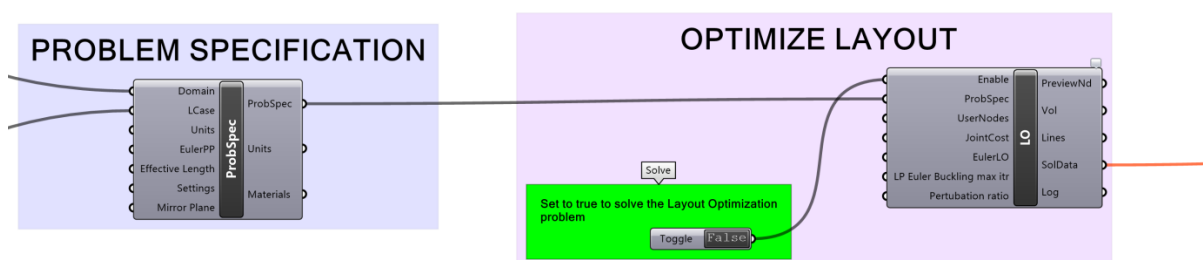

Figure 9 – The Problem Specification and Layout Optimization components
The listed features are combined as input into the **Problem Specification (ProbSpec)** component (as the **Domain** and **Load Case**). The output from this component is then used as the **ProbSpec** input into the **Layout Optimization (LO)** component (Figure 9). It is this latter component which controls the optimization. A toggle is added to the **Enable** input, which can then be used as a switch to turn on (and off) the optimizer kernel. Other inputs (e.g. **JointCost**) are optional controls on the problem setup and are explained later in this document.